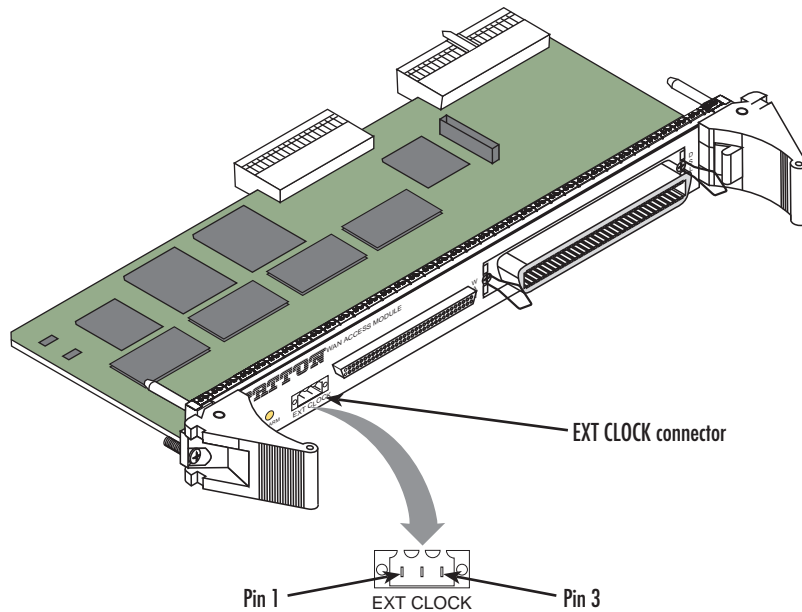

Figure 13. EXT CLOCK connector location
**Note** To synchronize the ForeFront system with a BITS clock, you must connect the site BITS clock system to the *EXT CLOCK* connector located on the rear-panel of the T-DAC WAN Access Module rear card (see figure 13).
1. The *EXT CLOCK* connector is a 3-pin terminal block connector (see figure 13). As you face the rear-panel, pin 1 is located at the top (vertical card orientation) or left (horizontal card orientation). Table 6 lists the connector pinout.